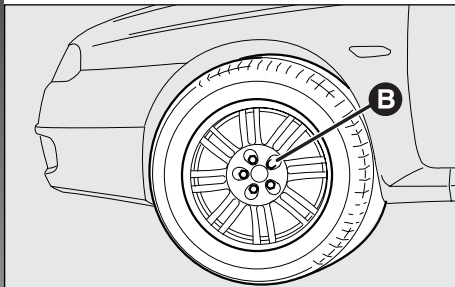

fig. 11
– loosen the fastening bolts by about one turn (**B-fig. 11**);
– completely unscrew the fastening bolts (**B-fig. 11**), and remove the wheel;